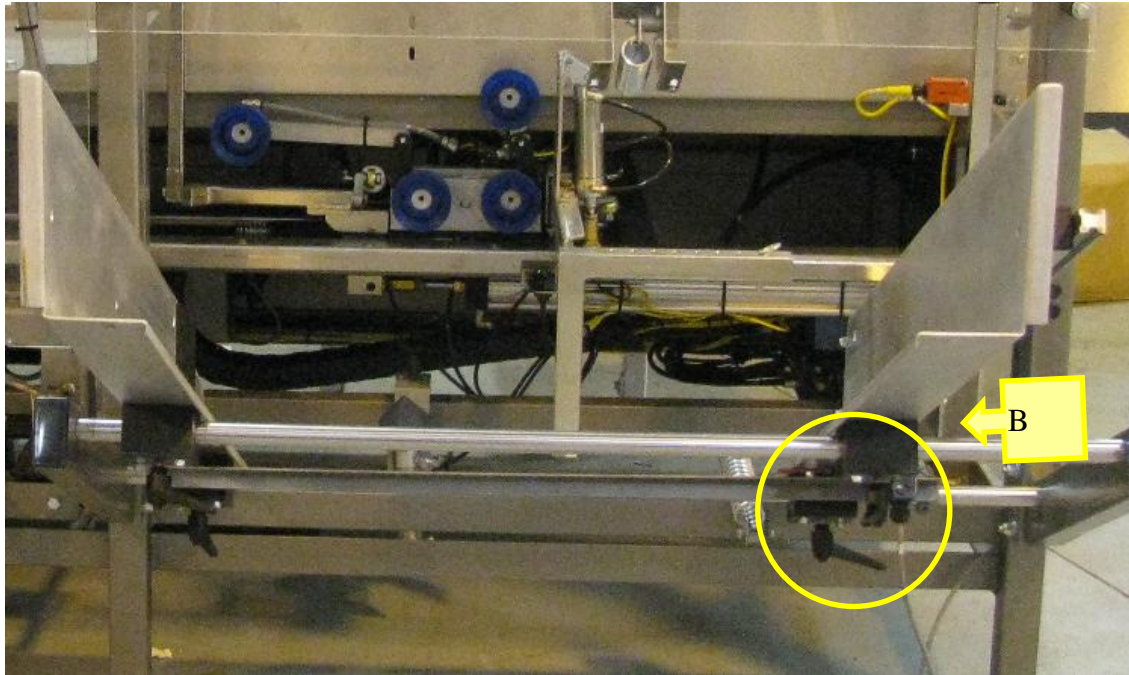

Figure 6 - Magazine Minor Side (B) (Squaring Arm Side)
3. Adjust the magazine case guide minor side (B) to case width. (See figure 6)